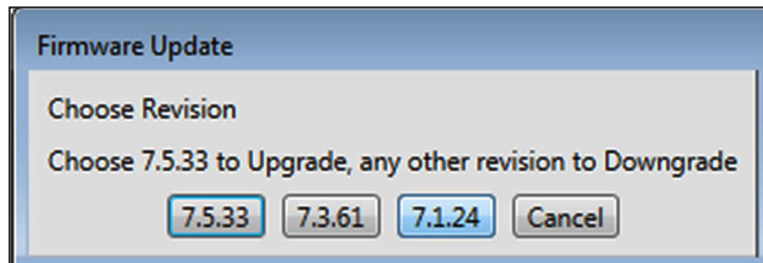

Figure 32. The Firmware Update Choose Revision dialog box for selecting the firmware version.
**STEP 14.** When the Firmware Update Choose Revision dialog box appears, select the desired firmware version. See Figure 32.